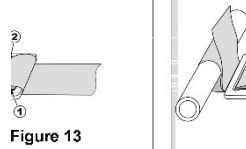

Figure 13
5. In case of the combination of a 50 mm bracket slot and 75 mm webbing, fold the webbing in as shown in Figure 13.